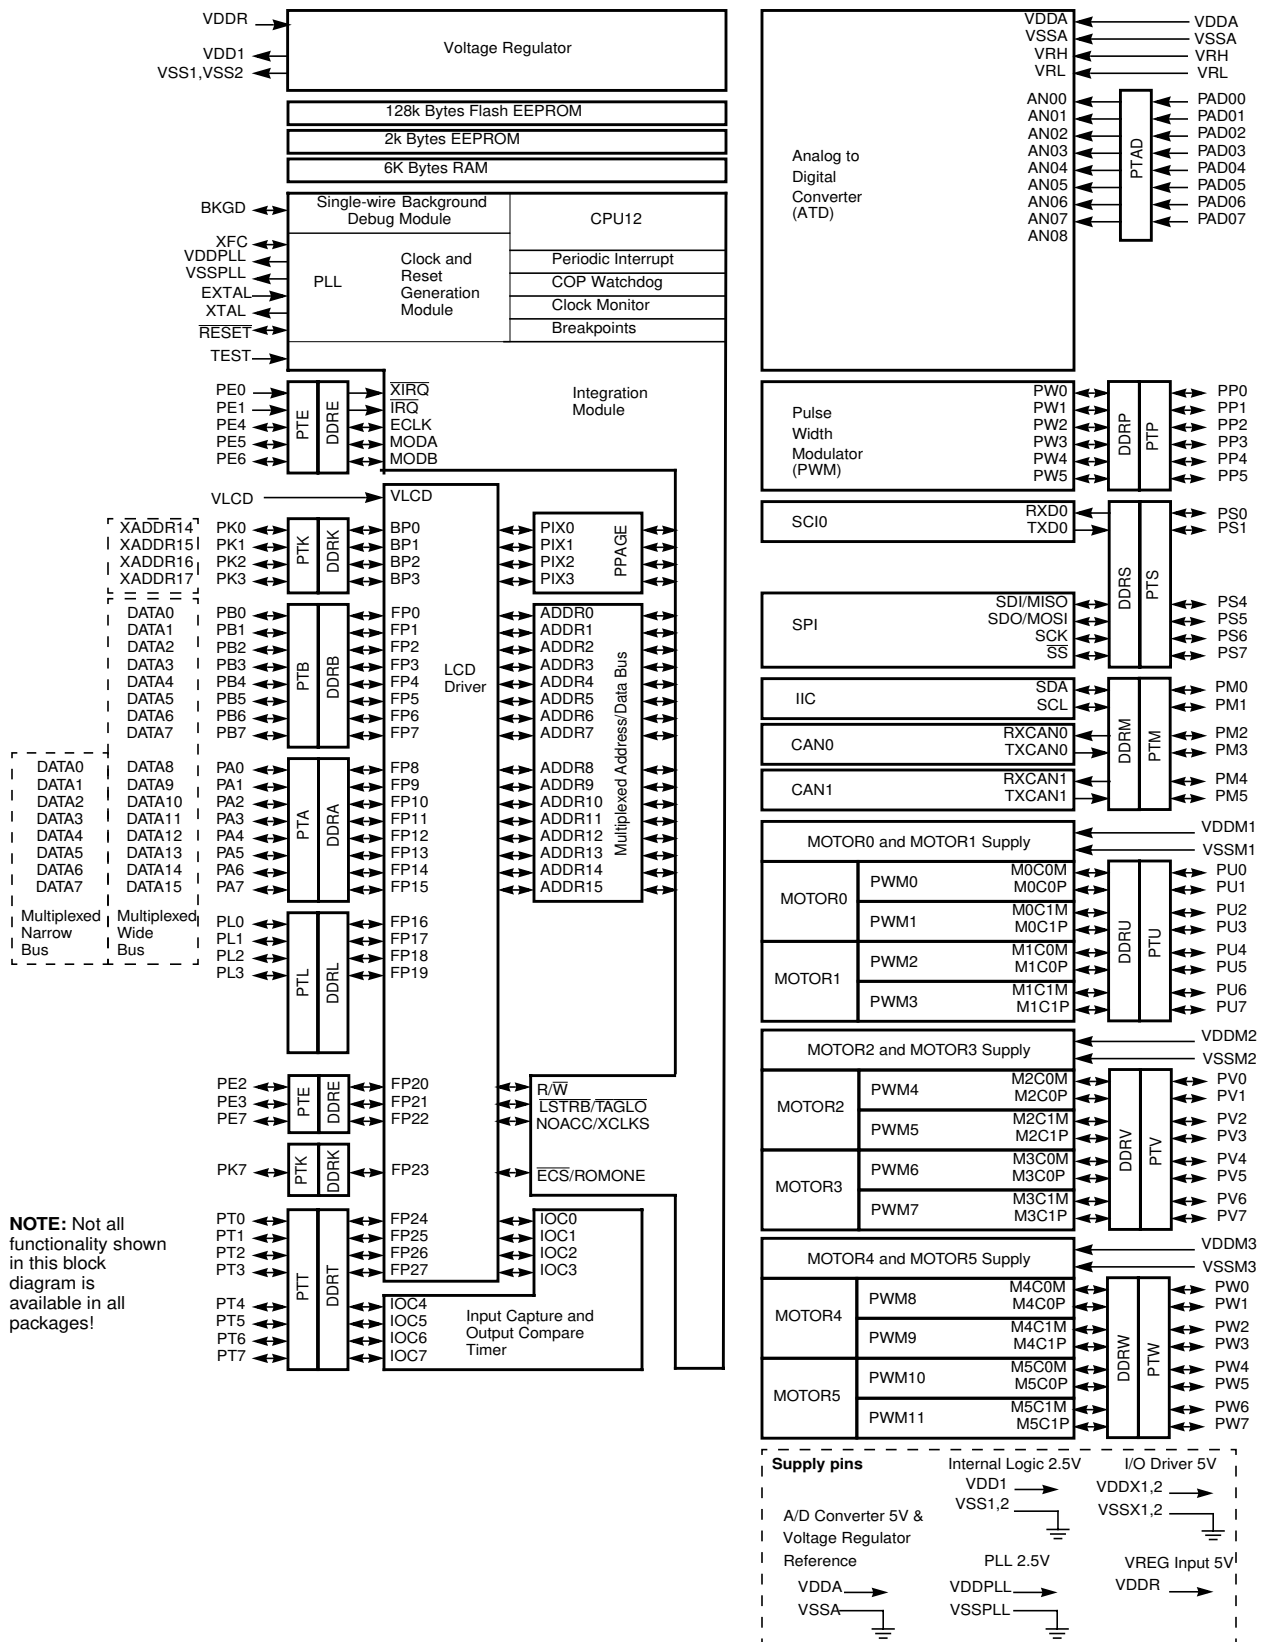

Figure 1-2 MC9S12H128 Block Diagram
**Figure 1-2** is a block diagram of the MC9S12H128 device.